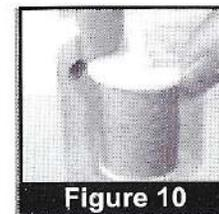

Figure 10
2. Clamp the reel cover over the Spool Pin so that the thread remains in place. (Figure 10)